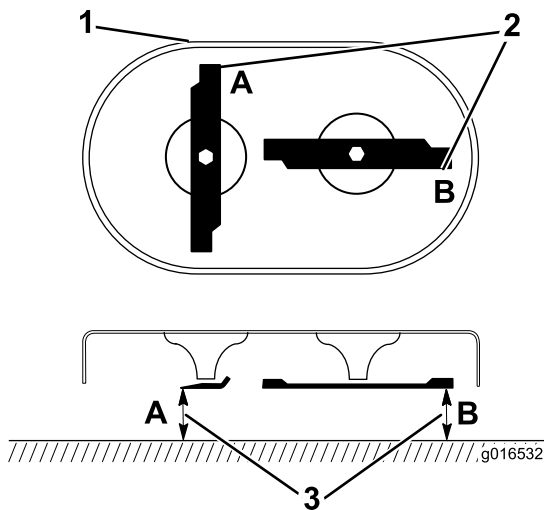

Figure 31
1. Rotate the blades until they are positioned as shown in Figure 31.
2. Measure from a level surface to the cutting edges at locations A and B, (Figure 31), and record both dimensions.